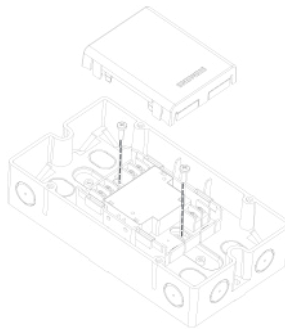
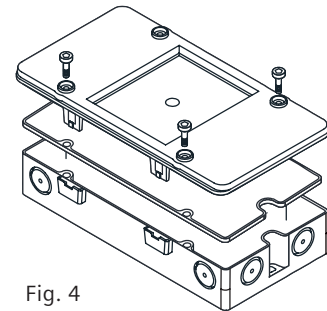

Fig. 3
Fig. 4
1. Mount the additional frame AI330 (accessory) on a wall or recess-mounted socket using two screws with max. diameter of 4 mm (Fig. 3, Fig. 4).
- Installation outside a switching cabinet or a control unit: use FDCH221 housing (Fig. 3).
3. Use two screws (M 4) to fit the housing on a plane surface (Fig. 3). Distance between holes: 182.0 ± 1.0 mm.
5. Fix the lid additionally with four screws (Fig. 4). (Only this way is IP65 protection guaranteed.)
2. Fix module with two screws in the housing (Fig. 3).